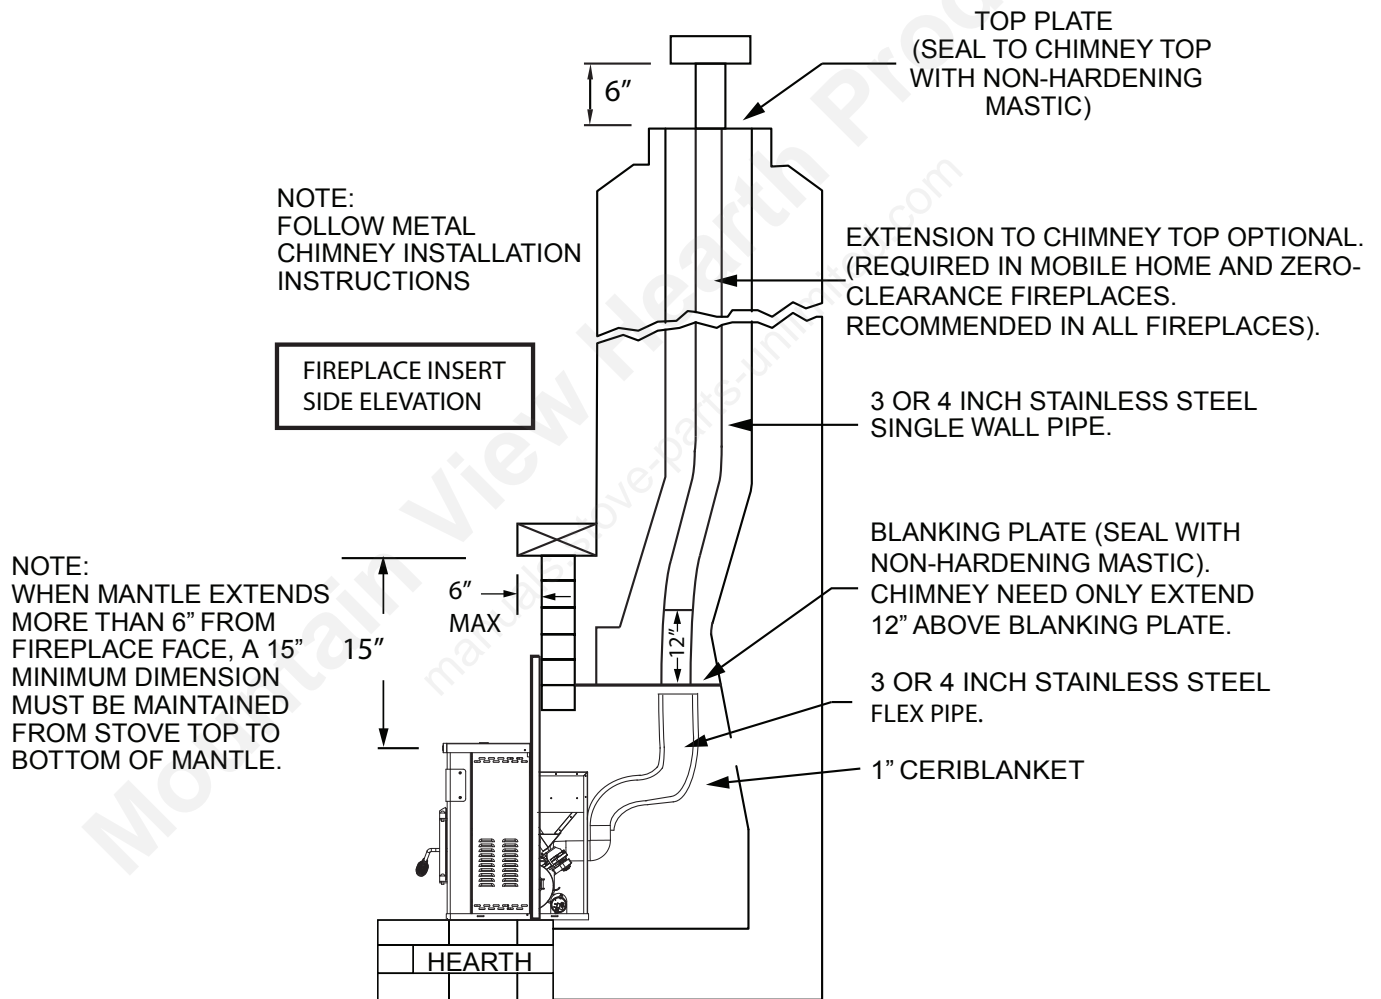

FIGURE 13
4. Attach flashing (refer to Figure 13), route power cord out the side nearest a 120V receptacle. Slide in insert.